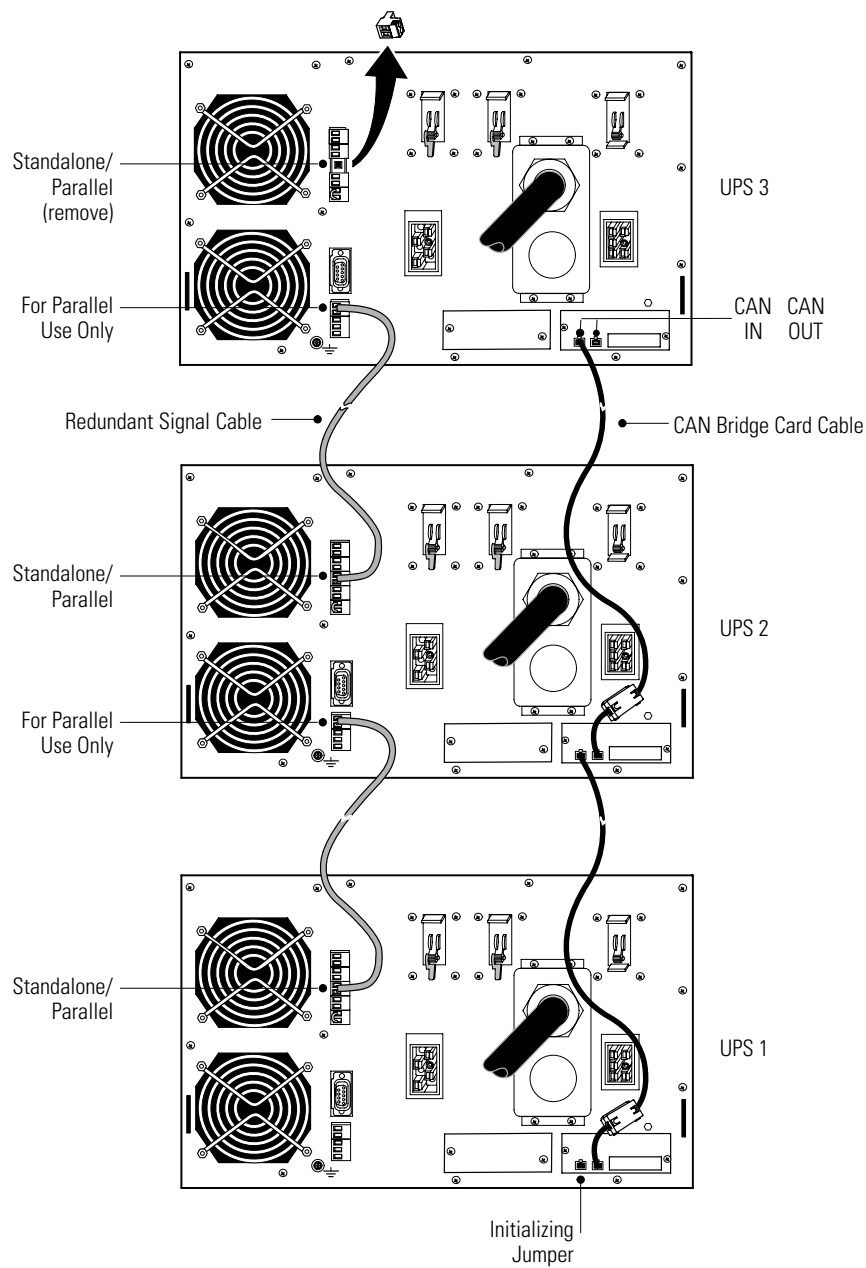

Figure 41. Typical CAN Bridge Card and Redundant Signal Wiring
9. Verify that the supplied initializing jumper is installed in the CAN IN port on the first UPS (UPS 1 in Figure 41).
10. Using the supplied connectors, install a CAN Bridge Card cable between each UPS as shown in Figure 41, connecting the CAN OUT port on one UPS to the CAN IN port on the next UPS.
NOTE *You can configure the parallel system with UPS 1 at the bottom of the rack (as shown in Figure 41) or at the top of the rack.*
12. Install a redundant signal cable between the For Parallel Use Only and Standalone/Parallel terminals on each UPS as shown in Figure 41. Remove the existing terminal block connectors before installing the cable.
13. Remove the Standalone/Parallel terminal block connector from the last UPS (UPS 3 in Figure 41).